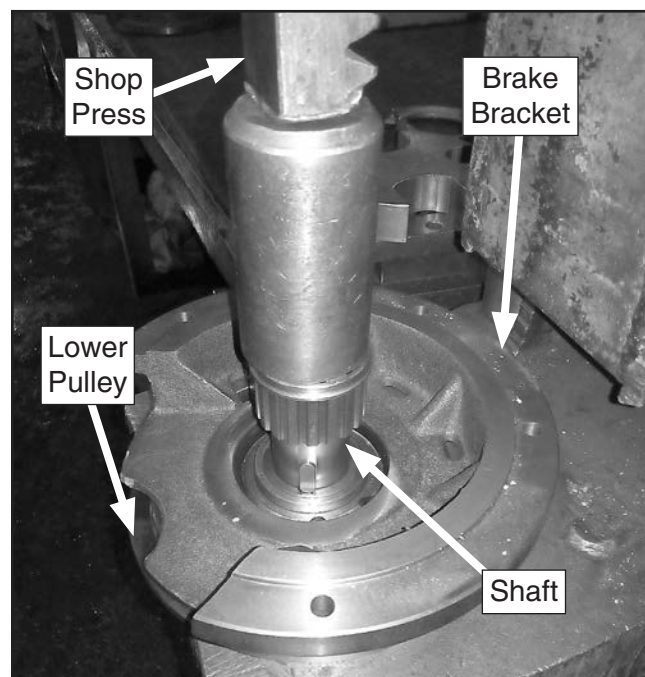

Figure 107. Using shop press to re-install shaft with bearing assembly into brake bracket and lower pulley.
14. Use press to re-install shaft and bearing sleeve assembly into brake bracket and lower pulley (see **Figure 107**).